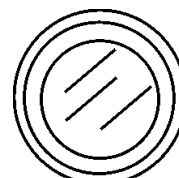

**Figure 38. Engine Speed Switch (Low)**
1. Place the engine speed switch (Figure 38) in the LOW (down) position.